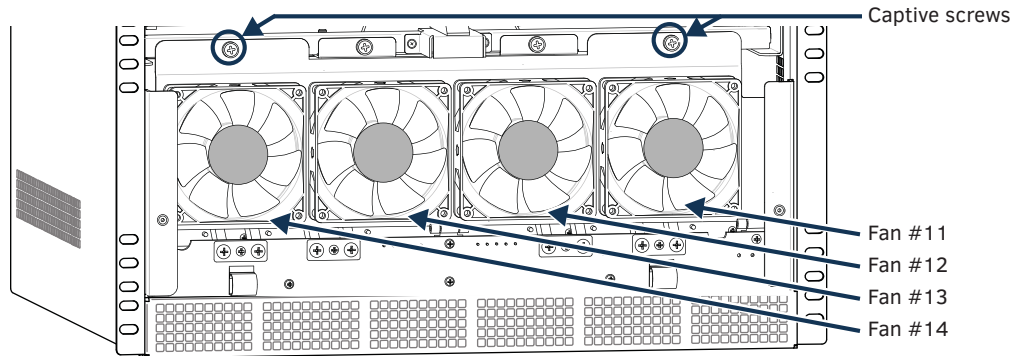

FIG. 48 Intake fan assembly captive screws and fan numbering
2. Identify the fan that needs to be replaced (see FIG. 48).